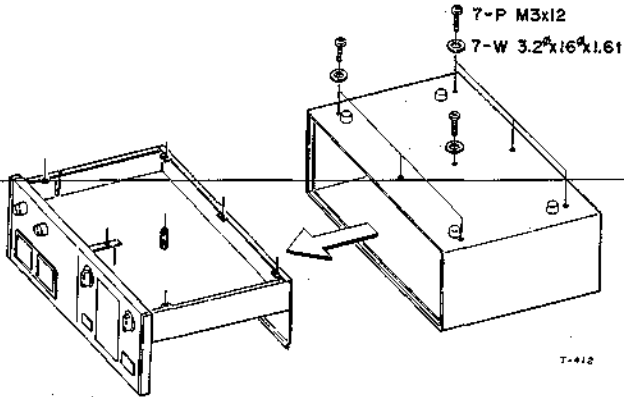

Fig. 1 Cabinet Removal
1. Lay the deck on its top surface as illustrated in Fig. 1.